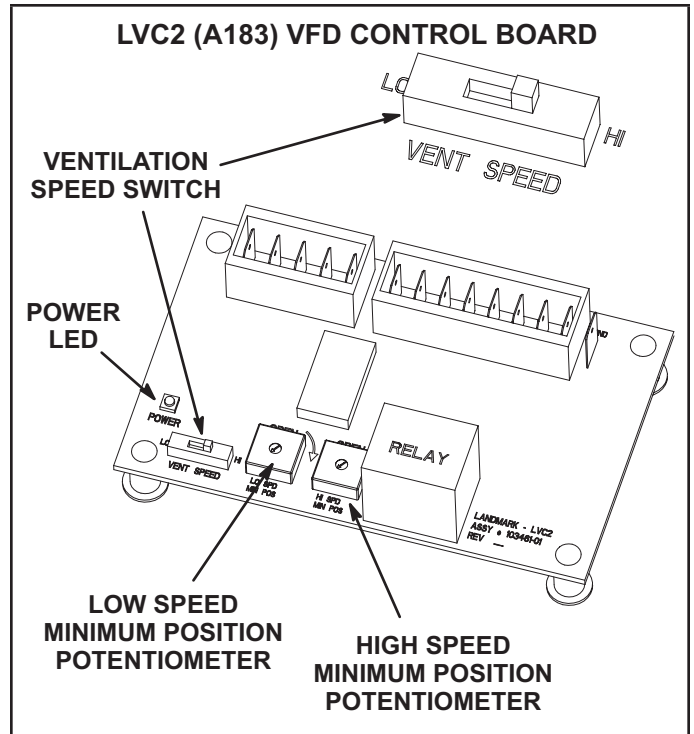

FIGURE 16
To save energy during ventilation, the blower speed can be set to low. This is accomplished by changing the ventilation speed switch on the VFD control board to “LO”. See FIGURE 16.
To maintain required minimum ventilation air volumes when the unit is in the occupied mode, two minimum damper positions must be set. A high and a low speed potentiometer are provided on the VFD control board to adjust minimum damper position. See figure 16. The low speed minimum damper position is used for both low and medium blower speeds as standard economizers only offer 2 damper positions.
- 5 - Check the power LED on the board. See FIGURE 16.
- 8 - When LVC2 24VAC thermostat blower (G) input and 24VDC power are present, check the LVC2 low and high speed outputs. The LVC2 uses inverse logic to enable the blower; 1VDC will be read at the enabled blower speed terminal. See TABLE 11.